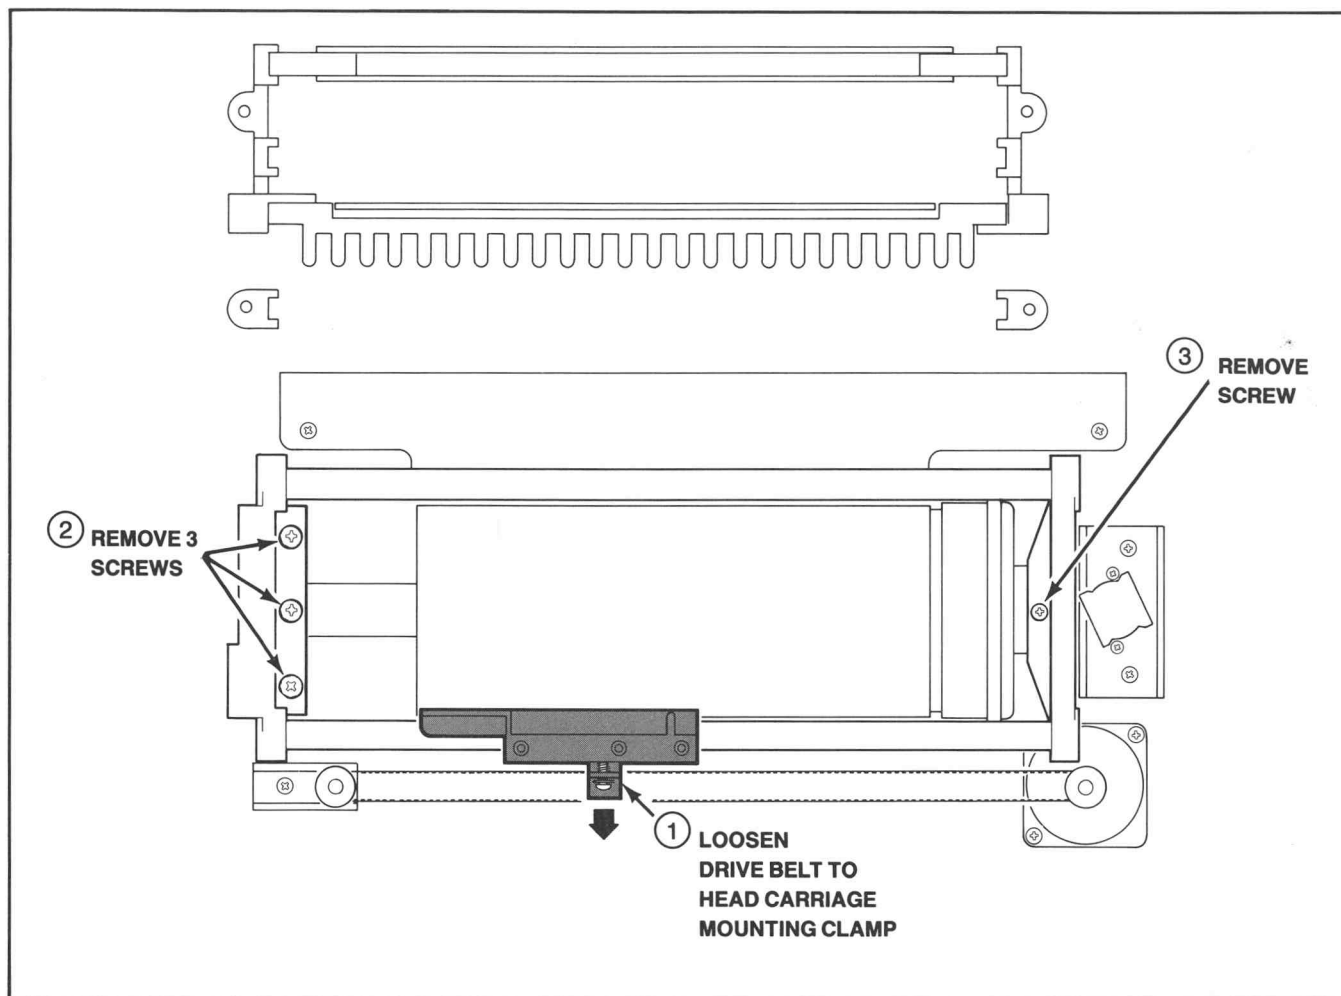

Figure 6-11. Carriage Rail Assembly.
7. Refer to Figure 6-11. Loosen the clamp (1), located on the front of the head carriage, attaching the head carriage to the drive belt.
8. Locate the three screws (2) near the left end of the drum. One screw secures the drum shaft and the other two secure the carriage rail assembly to the chassis bottom. Remove all three screws.
9. Remove the one screw (3) located at the right end of the drum shaft. Lift and remove the carriage rail assembly from of the copier.